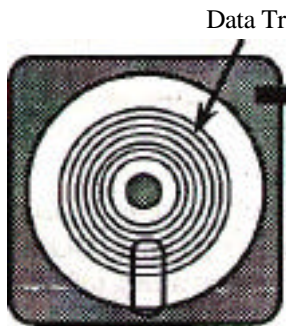

Figure 6-1
**Data Tracks** Information is stored on a floppy diskette in a fashion similar to that used by audio or video tapes. This information is stored in concentric rings around the circumference of the diskette; each of these rings is called a **Track**. See Figure 6-1